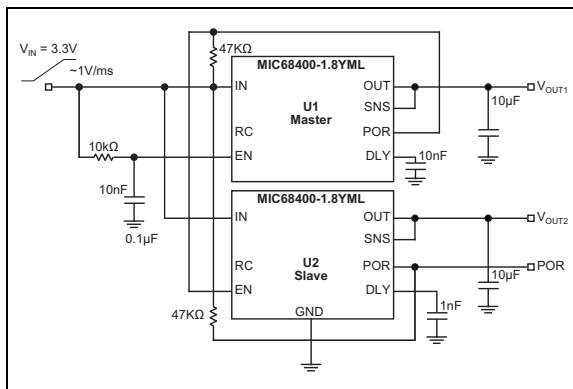

FIGURE 4-2: Enable Connection for V_{IN} -Driven and/or Slow Rise Time Inputs.
- Paragraph added after Figure 4-2 in Section 4.2 “**Input Capacitor**”.